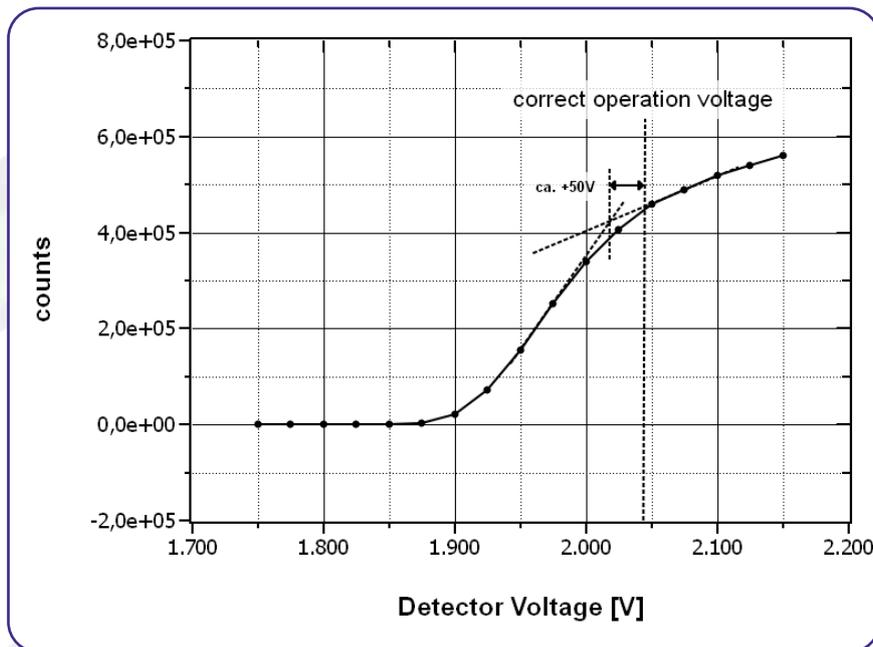

Figure 16: Example of MCP curve (for illustration only).
**Figure 16** shows an example of a MCP curve with the specified operation voltage. The MCP curve for specifying the starting operation voltage for a detector can always be found in the specification sheet.